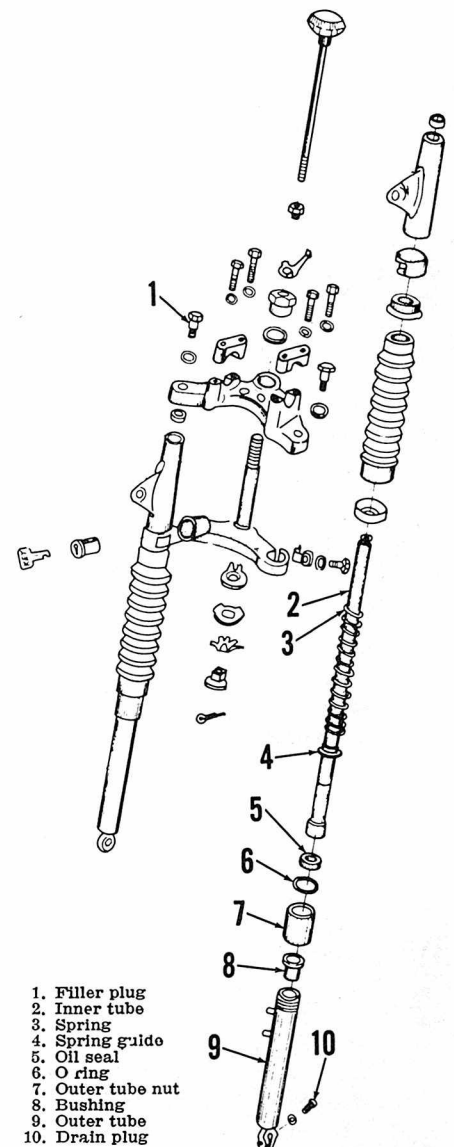

Fig. BS3-19—Exploded view of front suspension system.
**SUSPENSION.** Each front suspension unit contains 220 cc ( $7\frac{1}{2}$  fl. oz.) of hydraulic jack oil. Refer to Fig. BS3-19 for exploded view. Fluid level should be  $7\frac{1}{2}$ –8 inches from bottom of fork tube. Oil level can be measured using a long wire through the filler hole screw (1) in top fork brace. Complete rear suspension units should be renewed if bent, leaking or damaged.